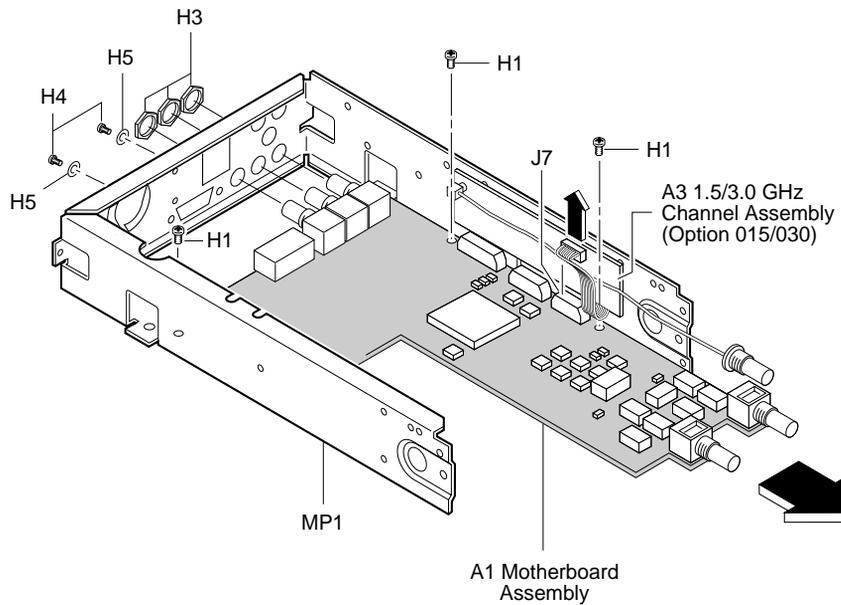

Figure 3-6. A1 Motherboard Assembly Removal
4 If the Counter contains Option 015/030/050/124 1.5/3.0/5.0/12.4 GHz Channel, disconnect the optional channel’s flat-ribbon cable from J7 on A1 Motherboard Assembly as shown in Figure 3-6.
7 Remove the two hex screws (H4), shown in Figure 3-6, on the rear-panel HP-IB connector using the 7-mm spin tight.
- 8 Remove the BNC nuts (H3), shown in Figure 3-6, from the rear of the chassis using the 14-mm deep-socket spin tight (Opt 015/030 only). Remove knurled nut for Option 050.**
- 9 Remove the three screws (H1) in A1 Motherboard Assembly as shown in Figure 3-6.**